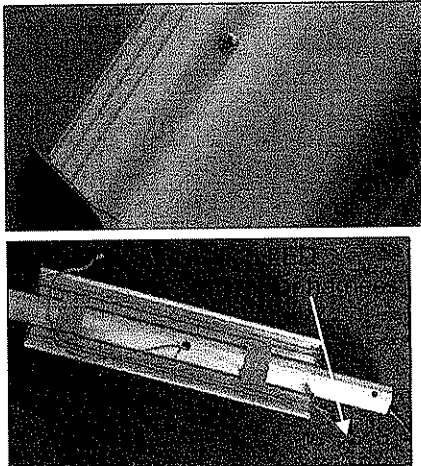
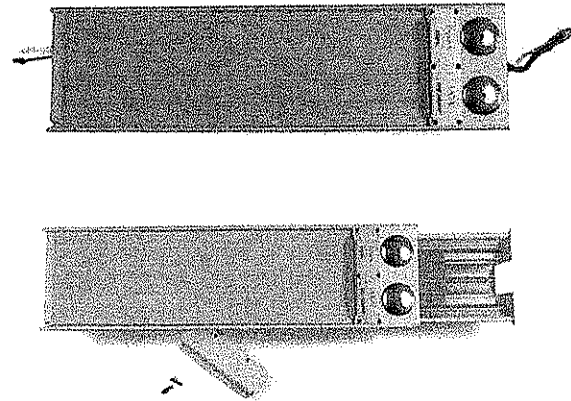
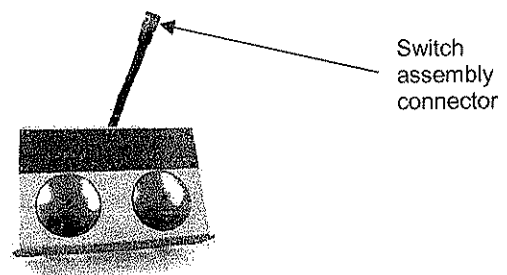

Figure 9: Location of the Brackets (front and back view)
Figure 8: Direction of Sliding the Front Panel Assembly from Back Housing Assembly
Figure 11: Button Assembly
4. Slide the front panel assembly away from the back housing as shown in Figure 8.
6. Anchor the back housing to the pole using two metal brackets and two security fasteners for each bracket. See Figure 9 for different views of the brackets and their fastening.
8. The harness has two connectors: one for the button assembly (Figure 11) and the other for the LED assembly attached to the acrylic. The connectors are very different and they cannot be interchanged. Tape the LED connector harness to the top of housing as shown in Figure 9 to easily connect it to the acrylic light pipe when sliding down the front panel back onto the back housing assembly (refer to Figure 8).